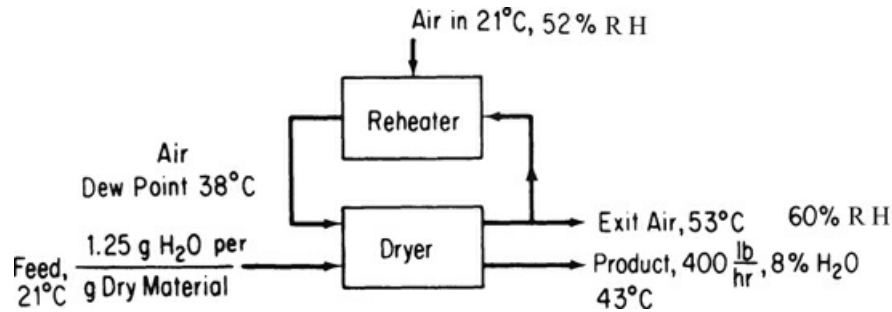

Figure P10.3.5
- **10.3.5** A dryer produces 180 kg/hr of a product containing 8% water from a feed stream that contains 1.25 g of water per gram of dry material. The air enters the dryer at 100°C dry-bulb and a wet-bulb temperature of 38°C; the exit air leaves at 53°C dry-bulb and 60% relative humidity. Part of the exit air is mixed with the fresh air supplied at 21°C, 52% relative humidity, as shown in Figure P10.3.5. Calculate the air and heat supplied to the heater, neglecting any heat lost by radiation, used in heating the conveyor trays, and so forth. The specific heat of the product is 0.18.